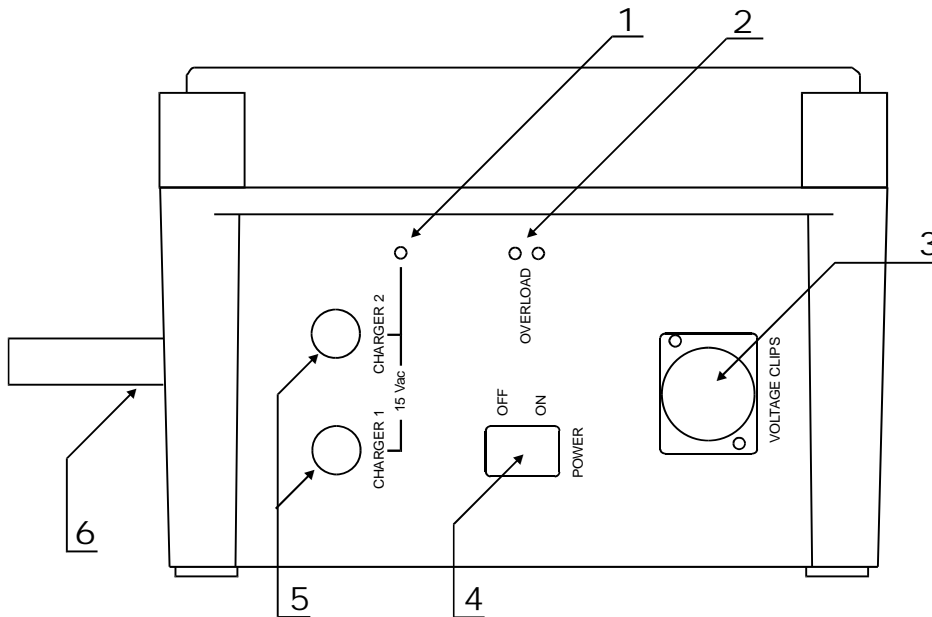

Figure 4: Generator Unit
The generator should be connected to the center of the parallel-connected capacitor units so that the current supplied by the generator will be equally divided between all units in the bank to maximize accuracy. Now the generator and display units can be switched on (Fig. 3: button 2 and Fig. 4: switch 4). Check that the both overload leds at the side of the Generator Unit (Fig. 4: 2) are off, otherwise the generator may be overloaded or in short-circuit.
1. Switch on the generator. Observe the two red indicator lights on the side panel (Fig. 4: 2). The other should light when switching the unit on and go out after a few seconds. If this happens, the generator is probably operational. Another method to check the operation of the generator is to measure the output voltage which should be around 1.4 ... 1.5 VAC with the frequency of 111.86 Hz. The indicator lights can be on if the load is too high or in short-circuit. If the battery is discharged, the generator will not start, in this case charge the battery.